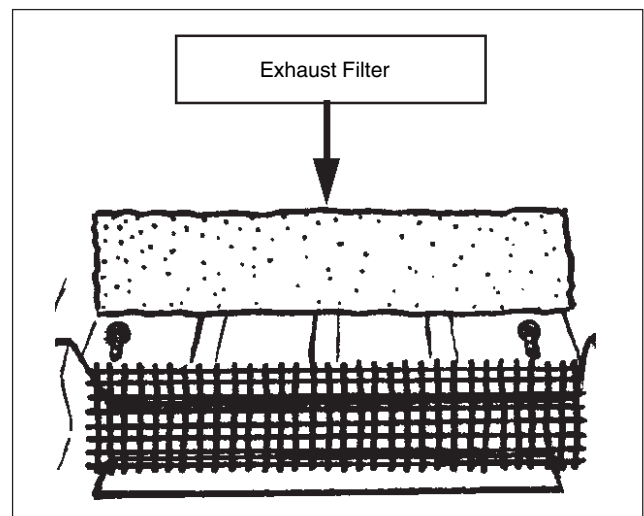

Figure 8
2. **Inspect and clean the exhaust filter.** It is located under the handle on the top of the machine (figure 8). Remove the filter and clean by shaking, vacuuming or washing with water. Replace if there are any rips, tears or if it can't be cleaned.